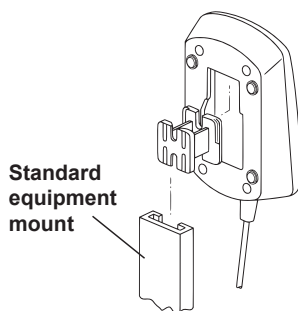

Figure 13: Equipment mount adapter
4. Where a standard equipment mount is available, use the equipment mount adapter to support the control module (Figure 13).